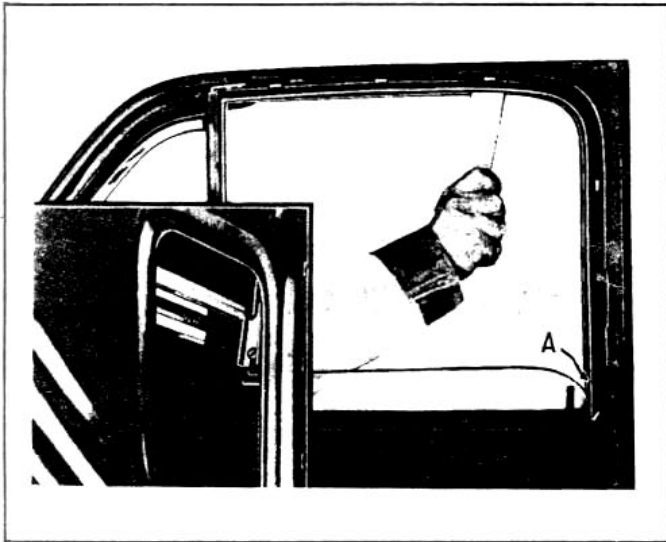

Figure No. 238
2. Release the retaining clips located in openings in the door header and door pillar by inserting a very thin bladed tool between the door reveal and the channel. (See Figure No. 238.) Compress the clip, and pry out at the same time, to release the clips from the door. Coaches and coupes have four retaining clips in the door header and one in the door lock pillar. Sedans have three in the door header and one in the door lock pillar.
3. Remove the cross recess head screw holding the channel to the door lock pillar. This screw is imbedded in the channel two inches up from the bottom of the window opening. (See Figure No. 238 at "A.") In some cases additional screws may be found holding the channel to the door in place of clips.
4. Remove the door trim pad and loading hole cover, if used, to loosen the retaining screw at the bottom of channel. (See Figure No. 238.)